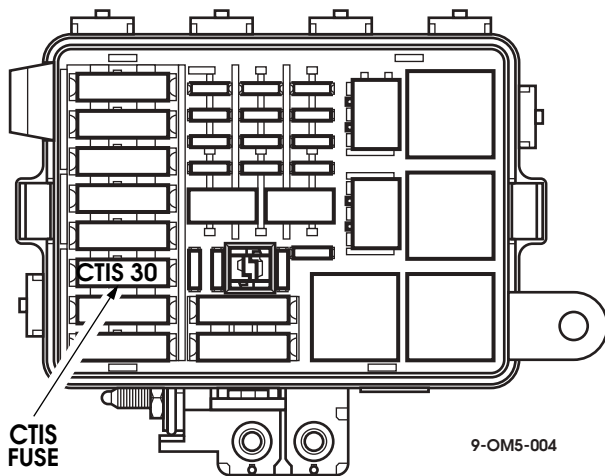

Figure 6-63: CTIS Compressor Fuse Location
3. Remove the fuse from the box (Figure 6-63).
1. Install the fuse in the fuse box (Figure 6-63).